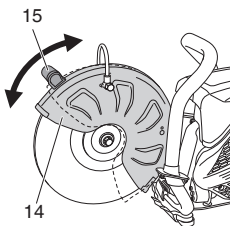

Fig. 14
1. Wheel guard (14) can be moved by hand without using a tool. To adjust the wheel guard (14), use handle (W) (15), or press the end of wheel guard (14) against the workpiece. (Fig. 14)